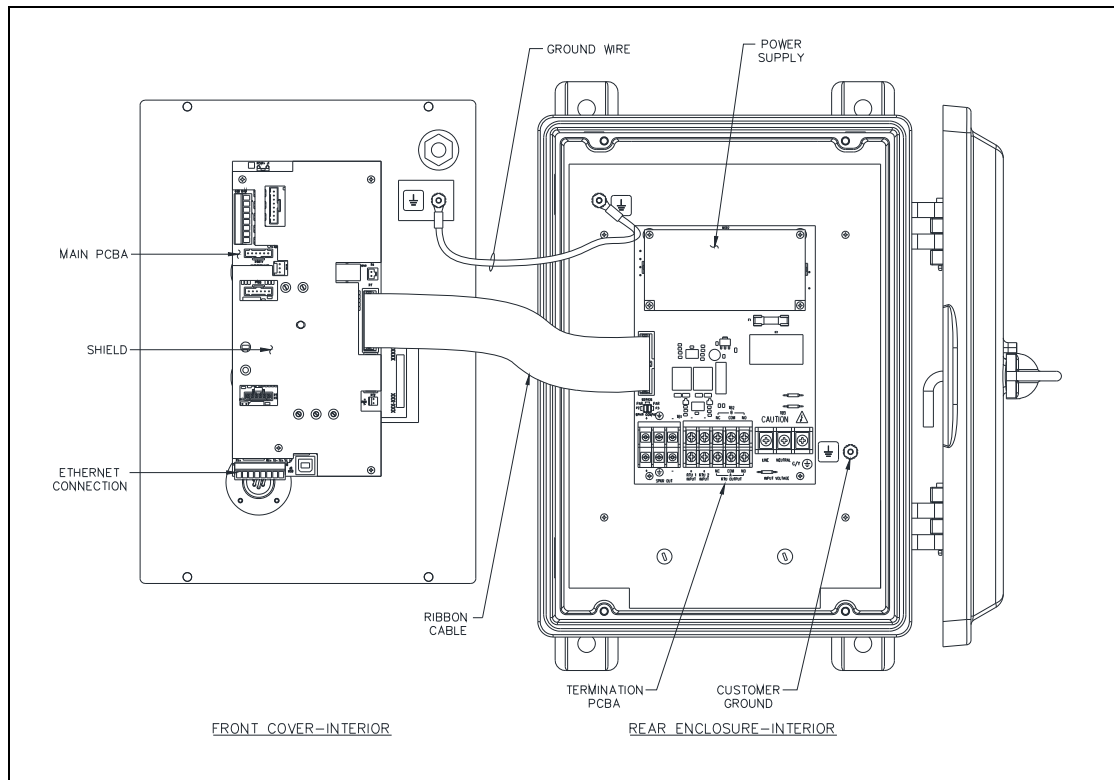

Figure 3. SP2 Weatherproof Class I Div. 2—Interior View
2. Secure it to the ground terminal located in the lower right corner at the back of the rear enclosure (see Figure 3).